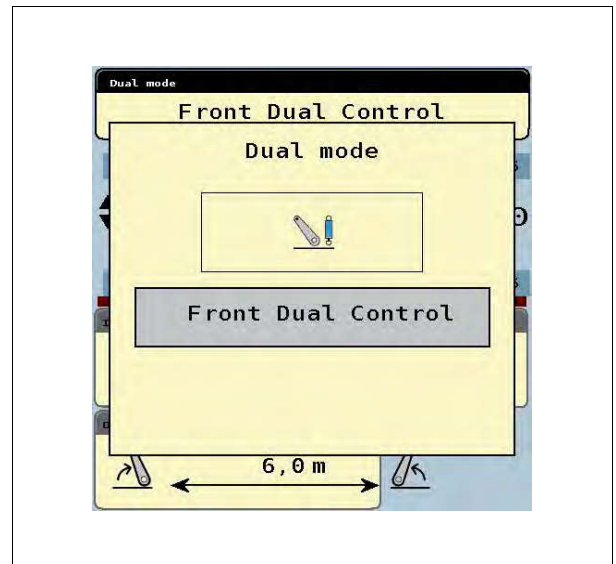

Fig. 3.
- The window fig. 3 is displayed.